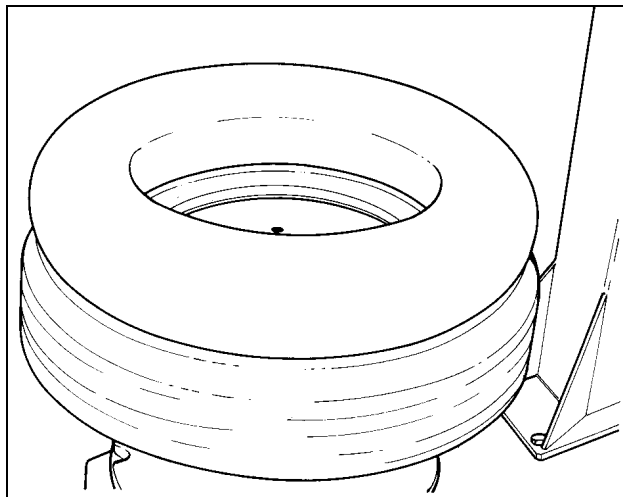

Fig.27
B. Confirm that the tube is designed for tires(Fig.27).